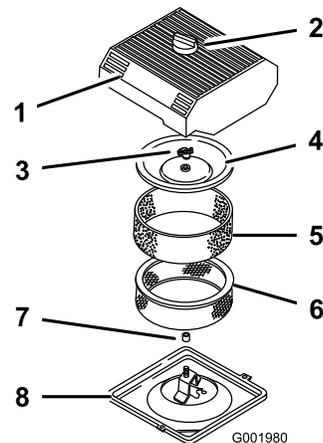

Figure 24
3. Clean around the air cleaner to prevent dirt from getting into the engine and causing damage (Figure 24).
4. Loosen the knob on the air cleaner cover and remove the cover (Figure 24).
- Carefully slide the foam element off the paper element (Figure 24).
- Unscrew the cover nut and remove the cover and paper element (Figure 24).
- Carefully slide the foam element onto the paper air cleaner element (Figure 24).
- Install the cover nut finger-tight against the cover (Figure 24).
- Install the air cleaner cover and knob (Figure 24).